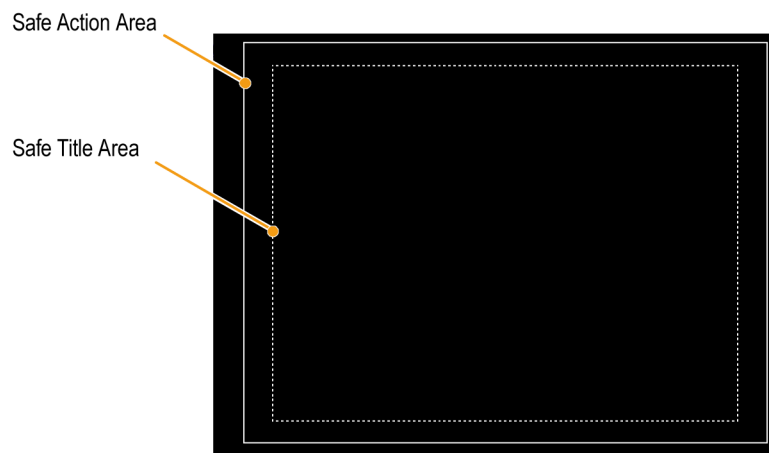

Figure 64: Safe Action and Safe Title areas
- The Safe Action Area shows the maximum image area within which all significant action should be contained; the Safe Title Area shows the maximum image area within which all significant titles should be contained. (See Figure 64.)